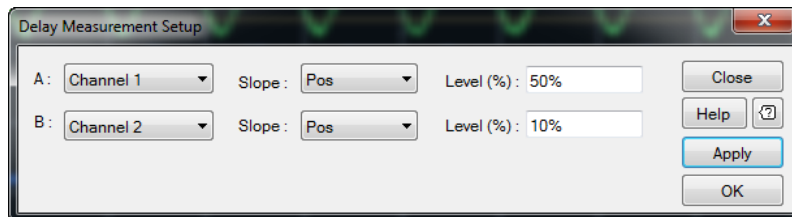

Figure 2-119 Delay Measurement Setup dialog
- 2 The Delay Measurement Setup dialog is displayed as shown in Figure 2-119.